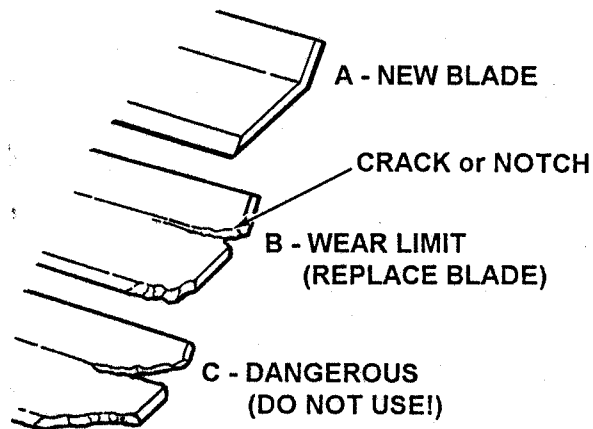

FIGURE 4.19
1. Inspect blade frequently for signs of excessive wear or damage. See Figure 4.19.
Never use a cutting blade that shows signs of excessive wear or damage on the Rear Engine Rider. Refer to Figure 4.19.
3. Inspect condition of the blade. Replace it if needed. Refer to Figure 4.19 for limits.